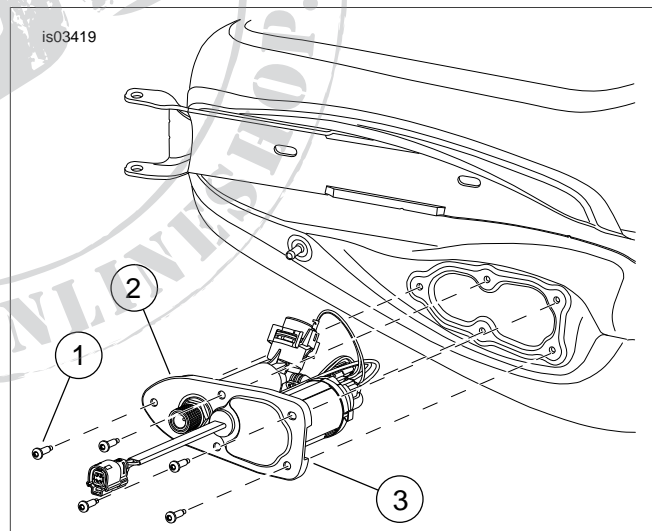

Figure 1. Fuel Pump and Gasket Removal
4. See Figure 1. Remove the screws (1), fuel pump (2), and gasket (3). Discard the gasket and screws.